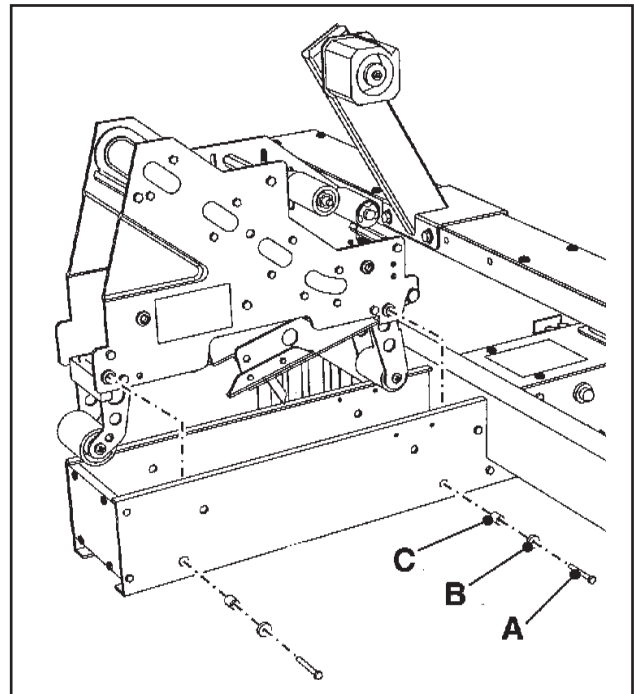

Figure 5-1 – Upper Taping Head Mounting
1. Remove upper taping head. Loosen and remove four (each) M6 x 25 flat head screws (A), special washers (B) and spacers (C) that fasten head to upper assembly as shown in **Figure 5-1**. **Support or hold taping head to keep it from falling when screws are removed.**